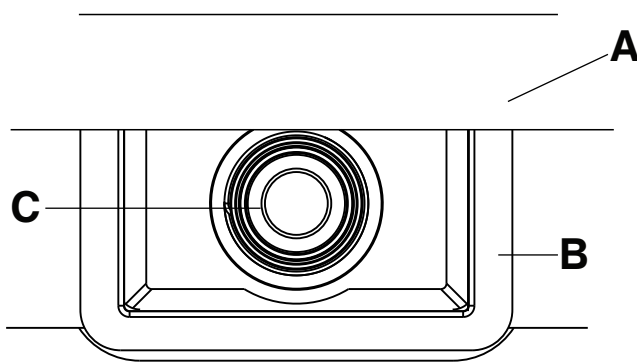

Figure 3 – Air attachment
1. Pull the air attachment box (B) outside of the support surface (A) (Figure 3).